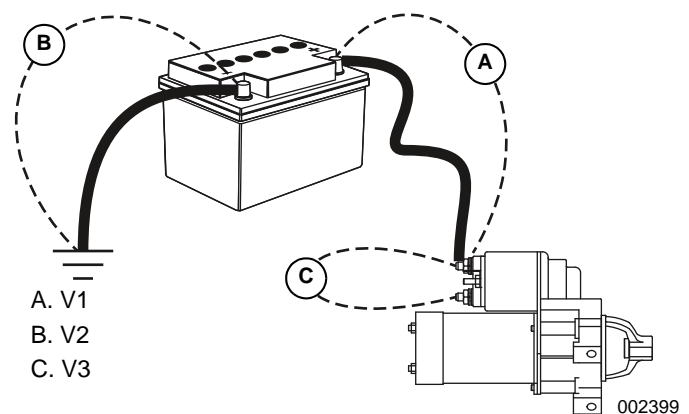
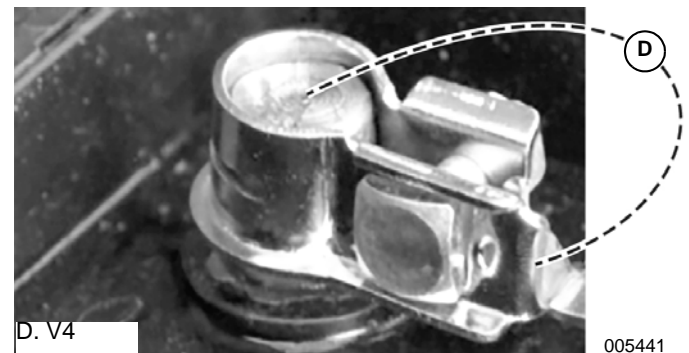

Figure 4-52.
Figure 4-53.
5. Refer to battery post and starter connections in Figure 4-52 and Figure 4-53 and perform a voltage drop test as indicated.
7. Record readings from test points V1, V2, V3 and V4 as depicted in Figure 4-52 and Figure 4-53. Although resistance-free connections, wires and cables would be ideal, most of them will contain at least some voltage drop. The maximum voltage readings you should see are as follows: